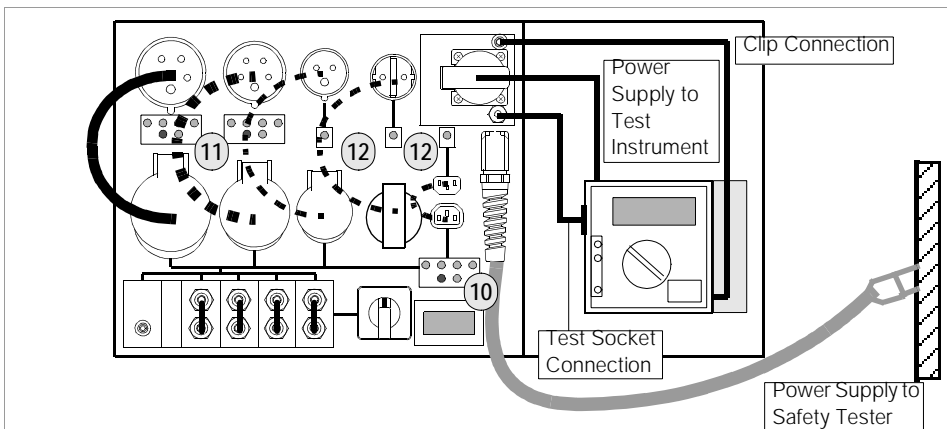

Figure 3 Testing Extension Cables
Firstly, the clip from the test instrument must be connected to the jack socket (16) at the safety tester (see Figure 3 on page 10). In order to test extension cables, connect the plugs and sockets from the cables to the appropriate plugs and sockets (1 through 5) at the safety tester. Test in accordance with chapter 5.1.